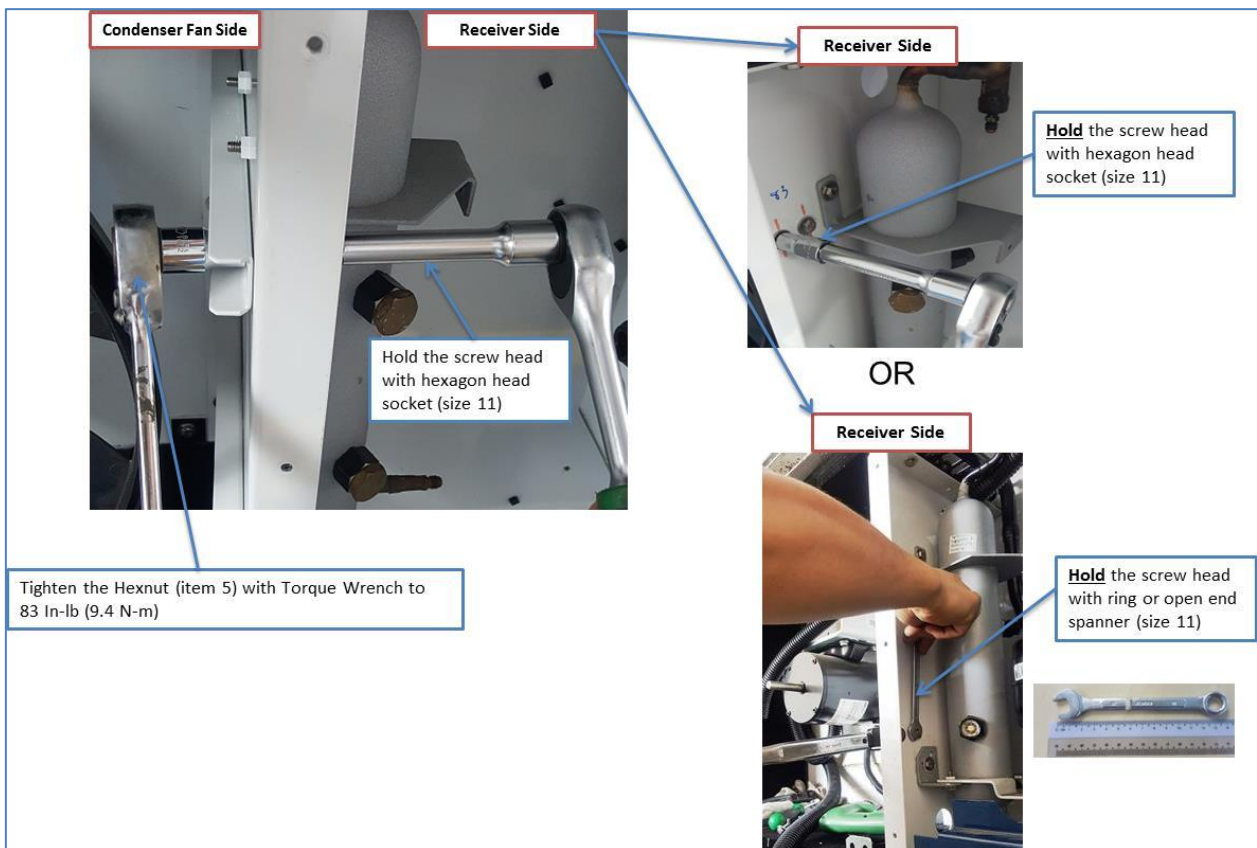
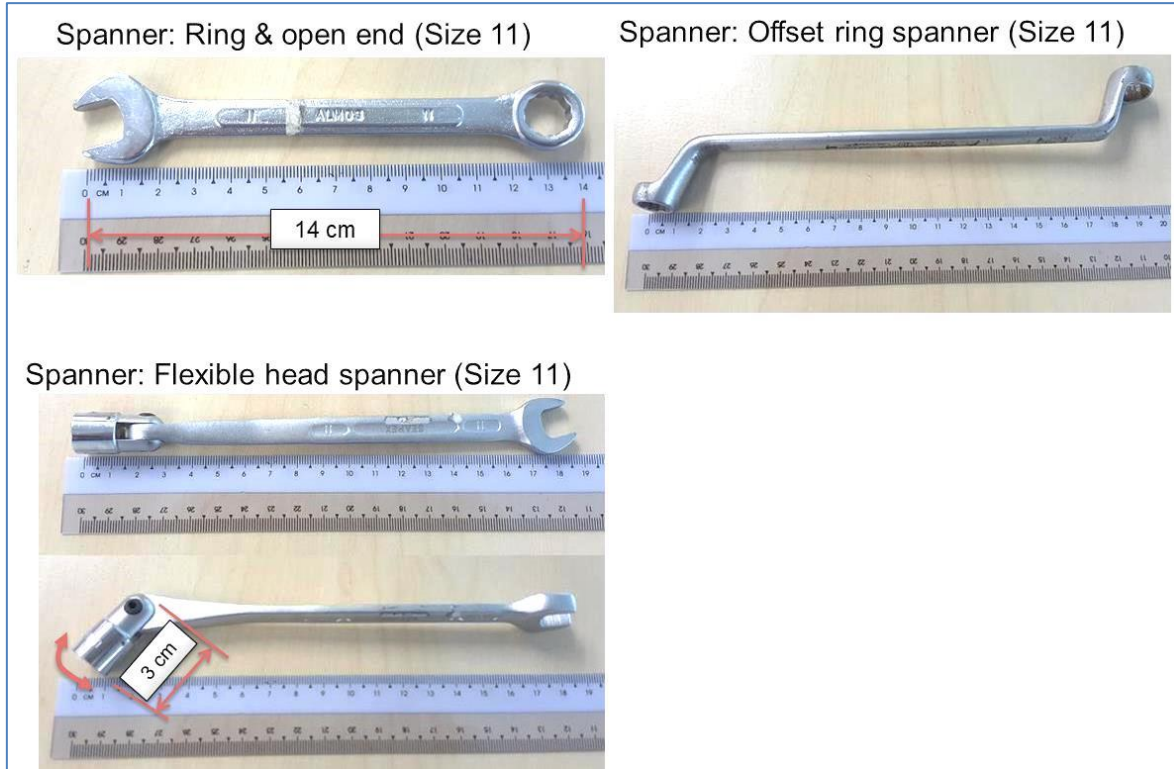

Figure 11
Figure14
- Hold the screw at receiver side as shown in Figure 11 to Figure13 with the suggested tools as shown in Figure 14.
- Tighten the self-lock hex nut with Torque Wrench to 83 in-lbs or 9.4 N-m at condenser fan side as illustrated in Figure 11.